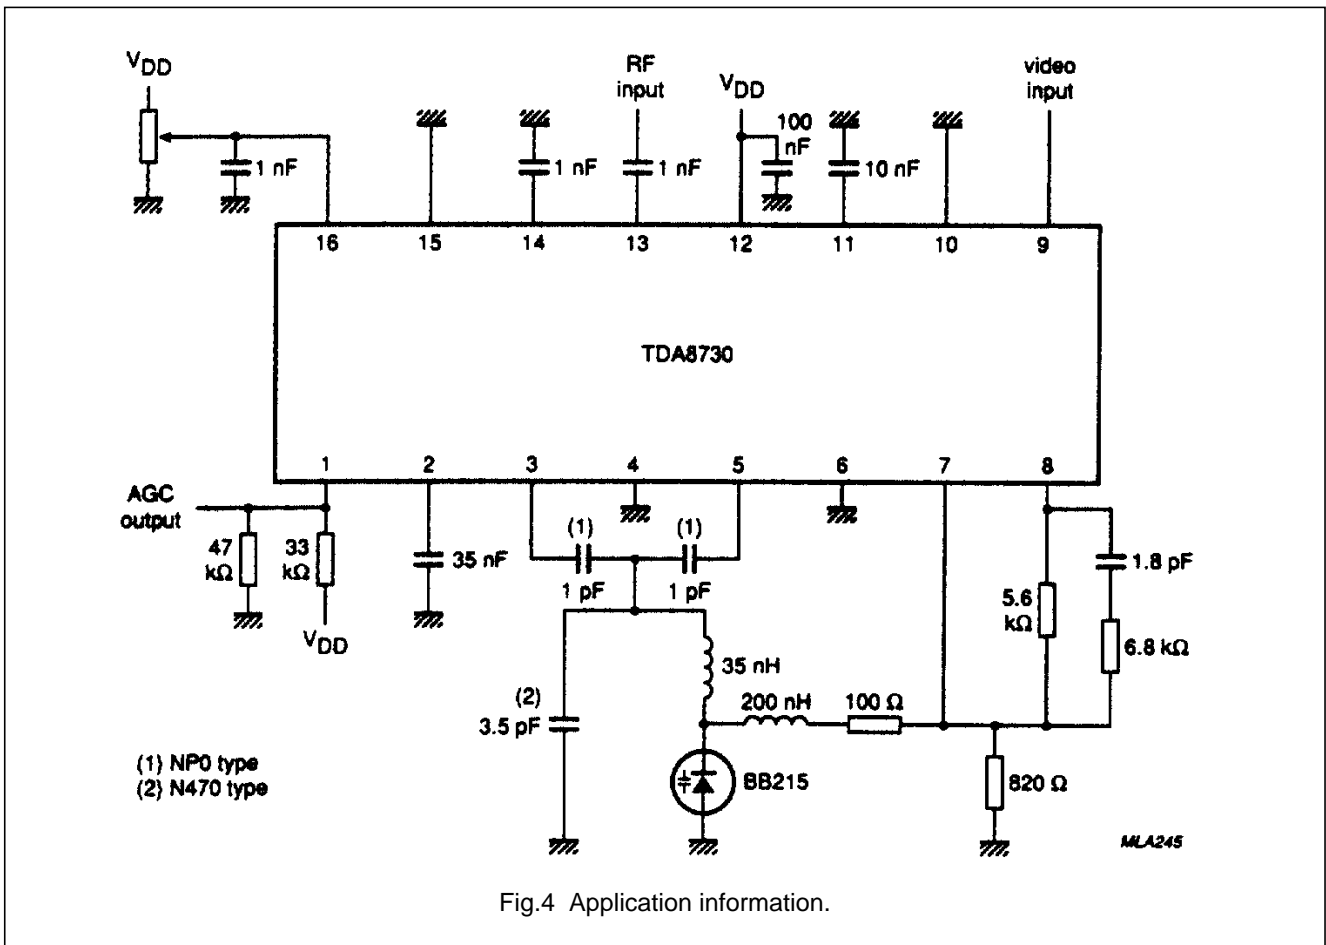

Fig.4 Application information.
**CHARACTERISTICS** $V_{DD} = 9\text{ V}$ ;  $T_{amb} = 25\text{ }^{\circ}\text{C}$ ;  $f = 480\text{ MHz}$ ; Input level  $70\text{ dB}\mu\text{V}$ ; measured in circuit of Fig.4 unless otherwise specified.
The current consumption of this application is given by the addition of the supply current of the circuit plus the current consumption of external components in the application given. In this event (Fig.4) the typical current is 80 mA.
- The circuit of Fig.4 is designed for an input level of 70 dB $\mu$ V.
However, for levels other than 70 dB $\mu$ V the optimum loop filter values will be different from those given in Fig.4.
- In the application circuit of Fig.4 the RF input is asymmetrically driven.